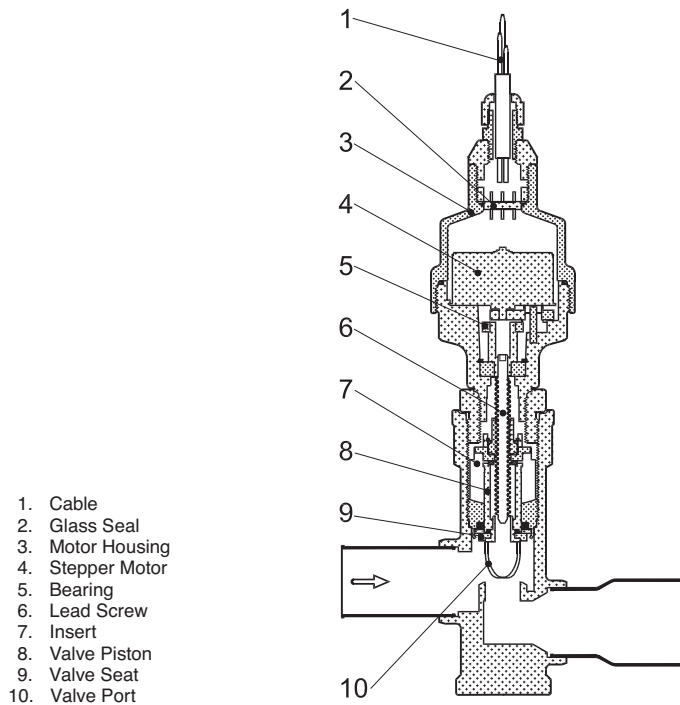

Fig. 25 — Cutaway View of the Electronic Expansion Valve
Electronic Expansion Valve (EXV) — See Fig. 25 for a cutaway view of the EXV. High-pressure liquid refrigerant enters valve through the top. As refrigerant passes through the orifice, pressure drops and refrigerant changes to a 2-phase condition (liquid and vapor). The electronic expansion valve operates through an electronically controlled activation of a stepper motor. The stepper motor stays in position, unless power pulses initiate the two discrete sets of motor stator windings for rotation in either direction. The direction depends on the phase relationship of the power pulses.
4. Enter the appropriate EXV test step under the (**Service Test**→**QUIC**) sub-mode in the Service Test mode. Locate the desired item **Service Test**→**QUIC**→**EXV.A**, **Service Test**→**QUIC**→**EXV.B**, or **Service Test**→**QUIC**→**EXV.C**. Press **ENTER** twice to make the valve position of 0% flash. Press and hold **▲** until 100% is displayed and press **ENTER**. Observe the operation of the lead screw. See Fig. 25. The motor should be turning, raising the operator closer to the motor. Motor actuator movement should be smooth and uniform from fully closed to fully open position. Press **ENTER** twice, use **▼** to select 0% and press **ENTER** again to check open to closed operation. If the valve is properly connected to the processor and receiving correct signals, yet does not operate as described above, the sealed motor portion of the valve should be replaced.